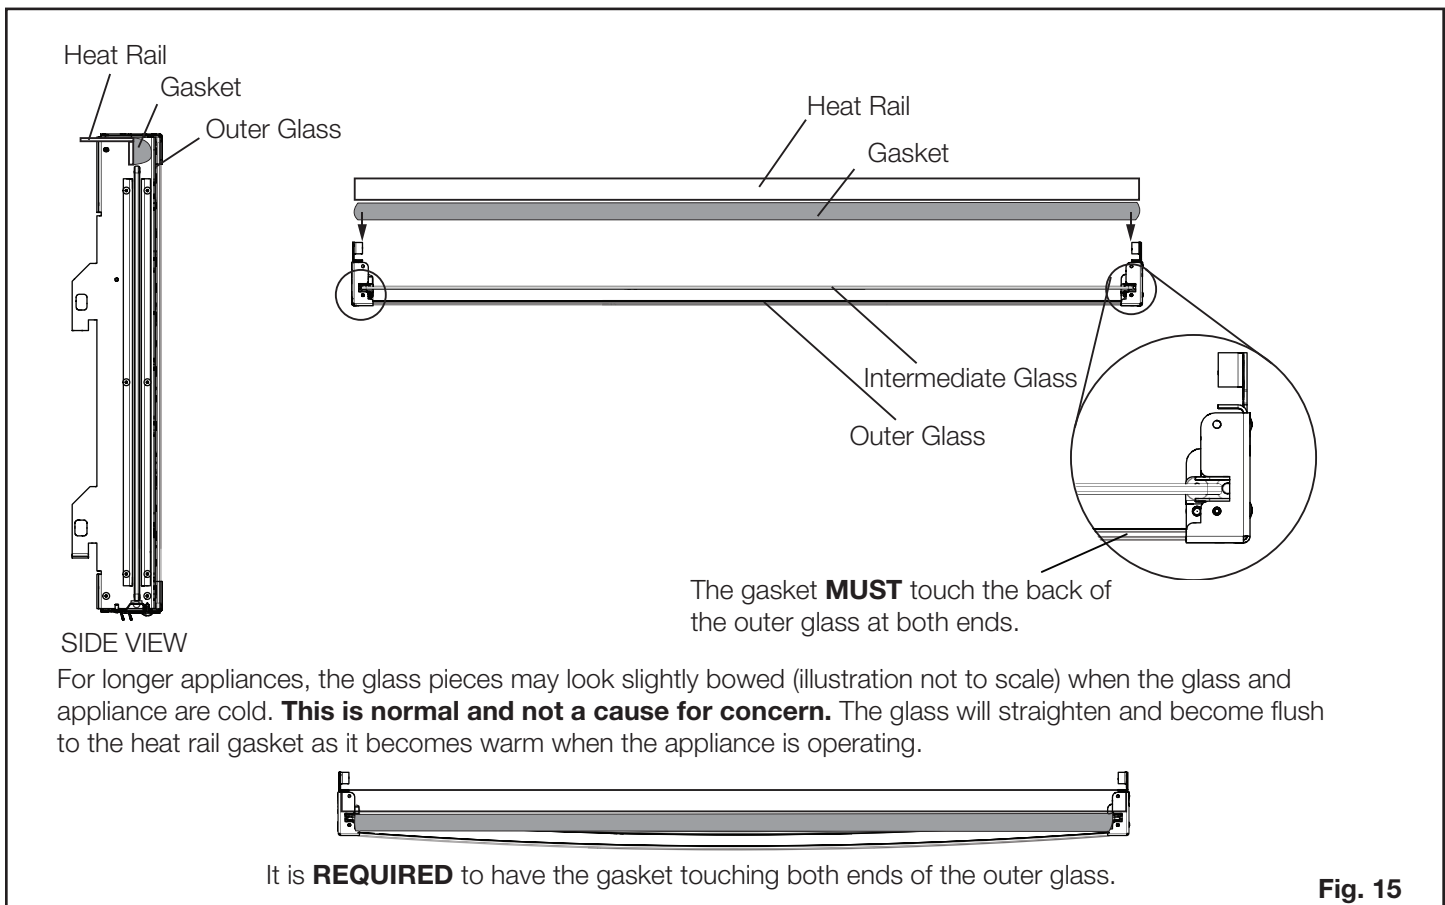

Fig. 15
- Slide the GGA-1 into the appliance until outer glass panel makes contact with heat rail gasket. The glass surface should contact the heat rail at each end (**Fig. 15**). The GGA-1 must 'click' into latches when secure. The GGA-1 must be retained by the latches and not open, if pulled. If GGA-1 does not smoothly engage with latches, an adjustment may be required, see step 13.